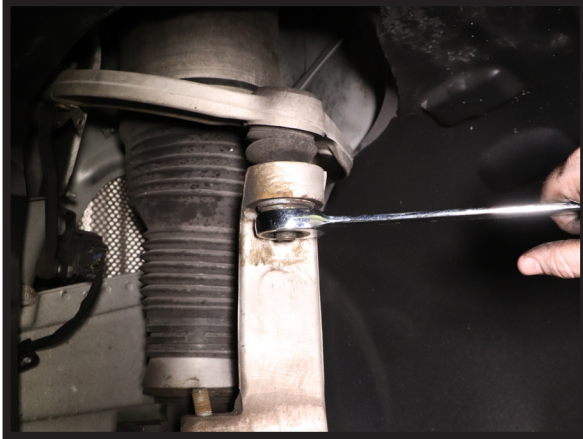

FIGURE 11
13. DISCONNECT AND SEPARATE THE WHEEL CARRIER AND UPPER CONTROL ARM. (FIGURES 11, 12)